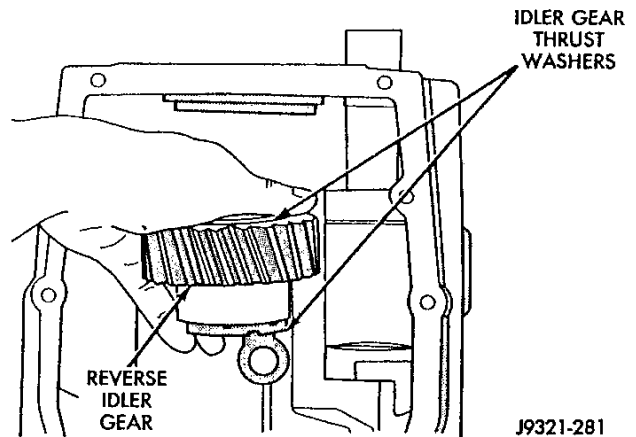

Fig. 53 Idler Gear And Thrust Washer Installation
(3) Position thrust washer at each end of idler gear and install gear assembly in case (Fig. 53). Be sure slots in thrust washers face outward as idler gear roll pins fit in these slots.
(4) Align idler shaft pin holes and push idler shaft into place in gear and washers.